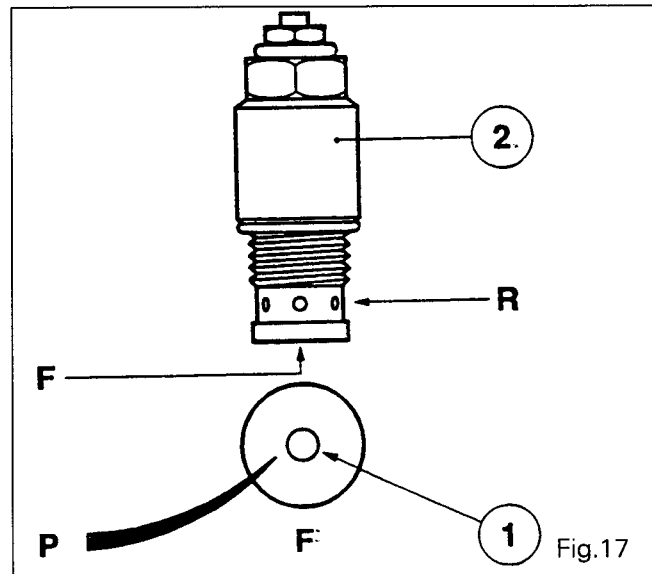

Fig.17
### Pressure relief valve (2) (Fig. 17)